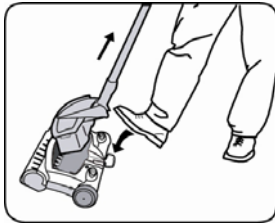

Fig. 9
1. Press the dust cup release lever with your foot. (Fig. 9)